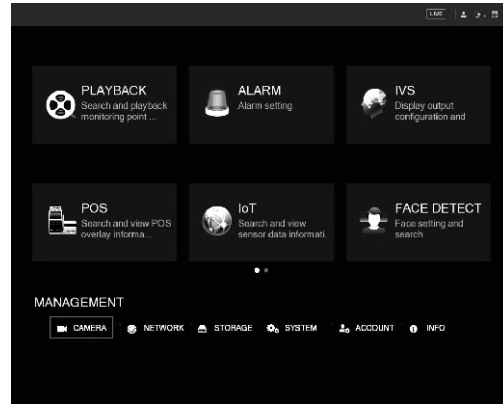

Figure 4-2
The Main Menu interface is displayed. See Figure 4-2.
Step 1 In the Main Menu interface (Figure 4-2), select **CAMERA > ENCODE**.